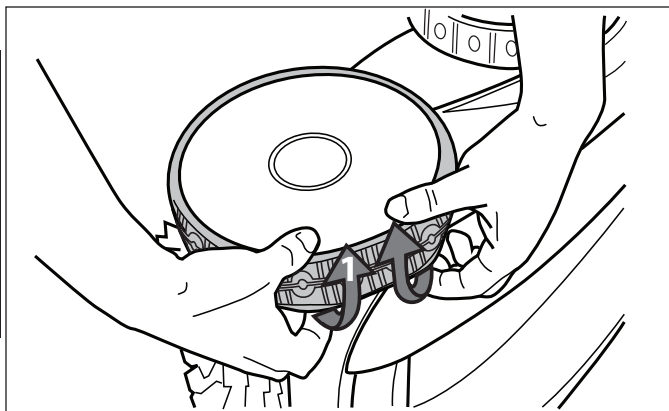

Figure 33. Pull the Old Tire Over the Wheel
1. Pull on the inside of the old tire to remove the tire lip from the wheel. See Figure 33.